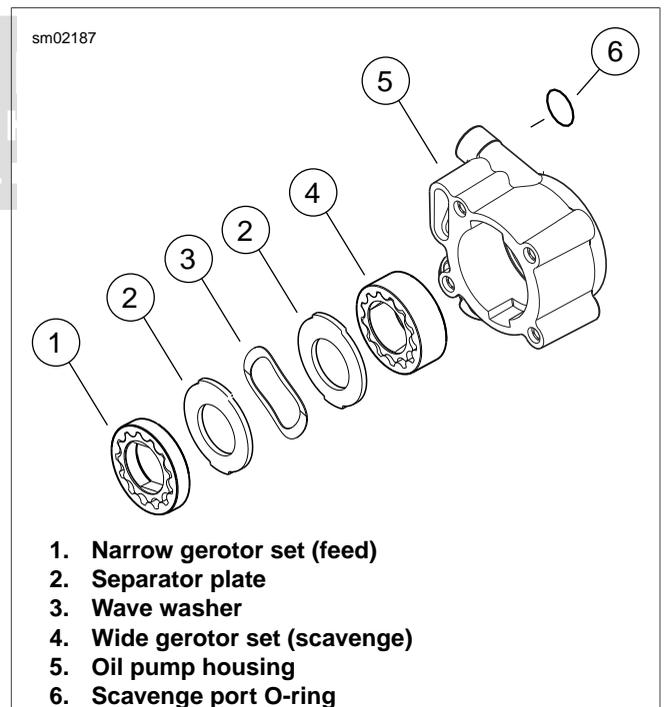

Figure 3-123. Assembling Oil Pump
8. See Figure 3-123. Assemble the oil pump. Verify that feed gerotors stand proud of the oil pump surface 0.080-0.090 in. (2.03-2.29 mm). If measurement is less than 0.080 in. (2.03 mm), remove feed gerotor set and reassemble using new wave washer. Repeat measurement and replace oil pump body if still not within specification.